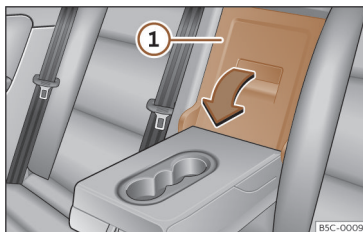

Fig. 141 In the rear seat backrest: opening the trapdoor.
- Pull the release lever in the direction of the arrow and push the tailboard cover >>> **Fig. 141** ① down and forwards.